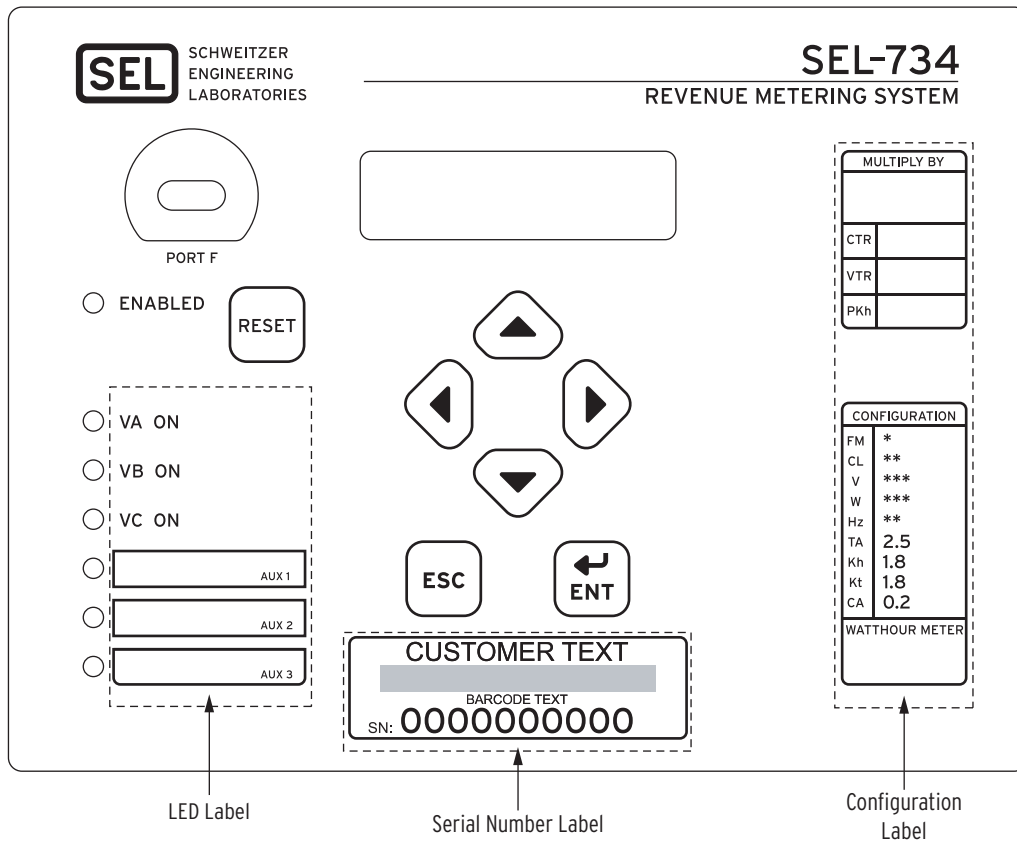

Figure 1 SEL-734 Configurable Labels Area With Factory Default Labels
The SEL-734 Configurable Labels Kit provides the materials and information needed to customize the LED, serial number, and configuration areas of the front panel. *Figure 1* shows the location of these areas.
Use the default label supplied with the relay.	See Figure 1.
- Step 2. Slide the tip of the tool under the label at the label pocket opening (see Figure 1 for opening locations).